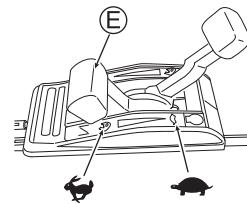

Fig. 13
- Confirm that there is no person behind you when pulling Starter knob (V).
- Securely grab Starter knob (V) when you pull it.
- Return Starter knob (V) slowly.
- 5 Warm up the machine before use. After the engine has warmed up, start mowing by setting Throttle lever (E) to "|\|". (See Fig. 13)